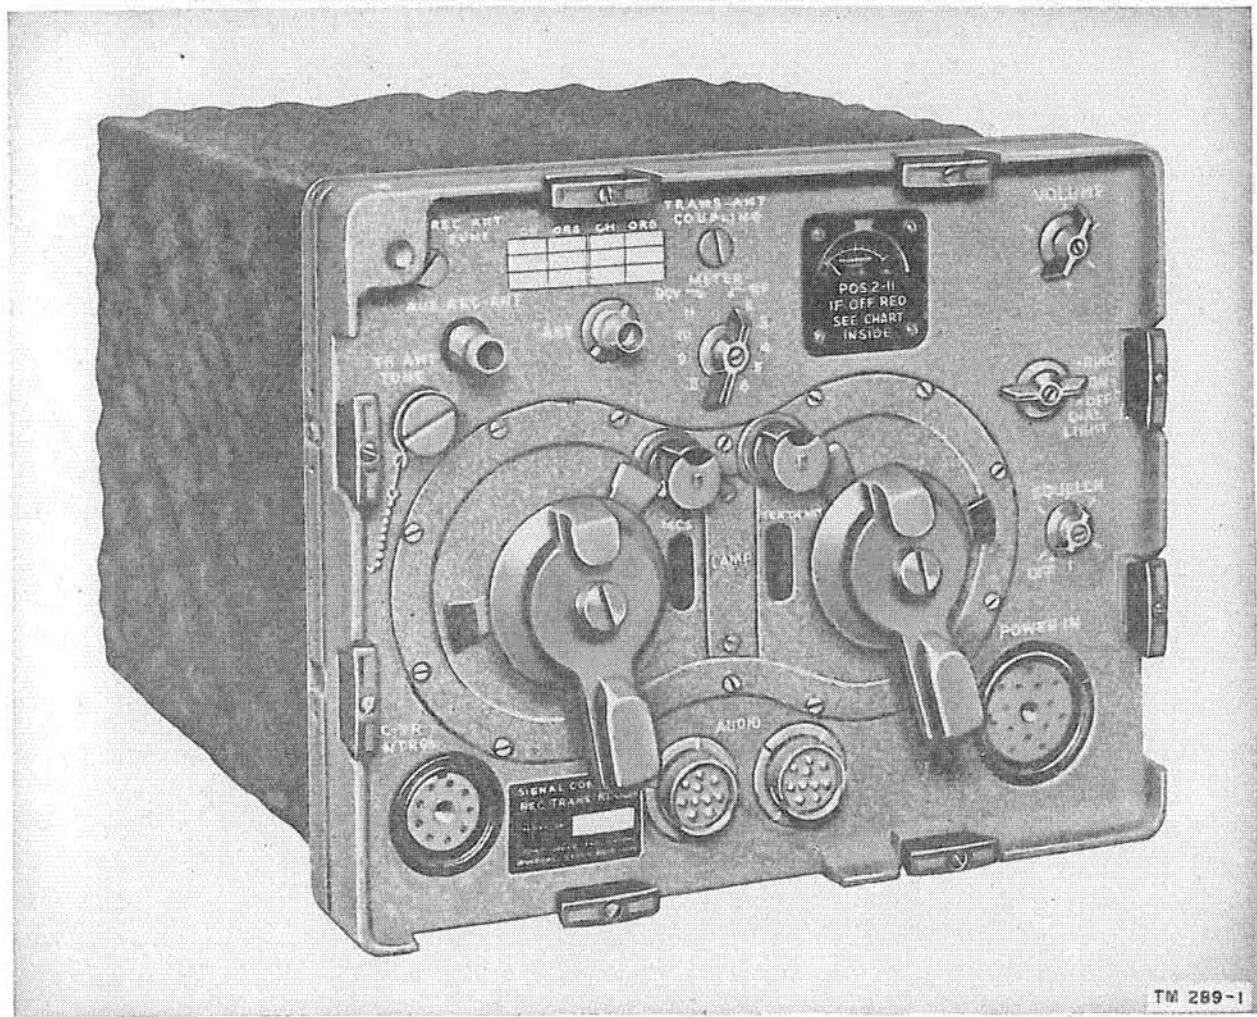

Figure 4. Receiver-transmitter RT-66/GRC.
b. The Set 1 receiver-transmitters are very similar in structure, function, and detailed circuit and mechanical arrangement; they differ from each other only in their operating frequency ranges and in those components which determine the frequency range. Hence Receiver-Transmitter RT-66/GRC (fig. 4) is externally similar to the other
d. Mechanically the receiver-transmitters are panel-chassis assemblies inclosed in a metal case (fig. 4). The bottom of the case is fitted with channel rails which are used to secure the unit to the vehicular mounting (par. 37). When the case is removed, the r-f and i-f chassis assemblies are available at either side of the unit (figs. 68, 69, and 70). All tubes are mounted on these vertical chassis.